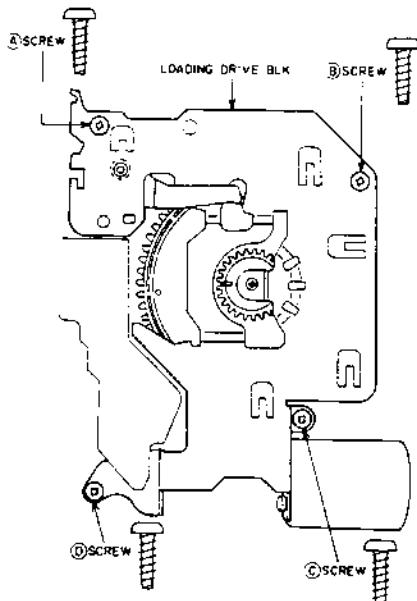

Fig. 4-15
- 2) Install the LOADING DRIVE BLK as shown in Fig.4-15.